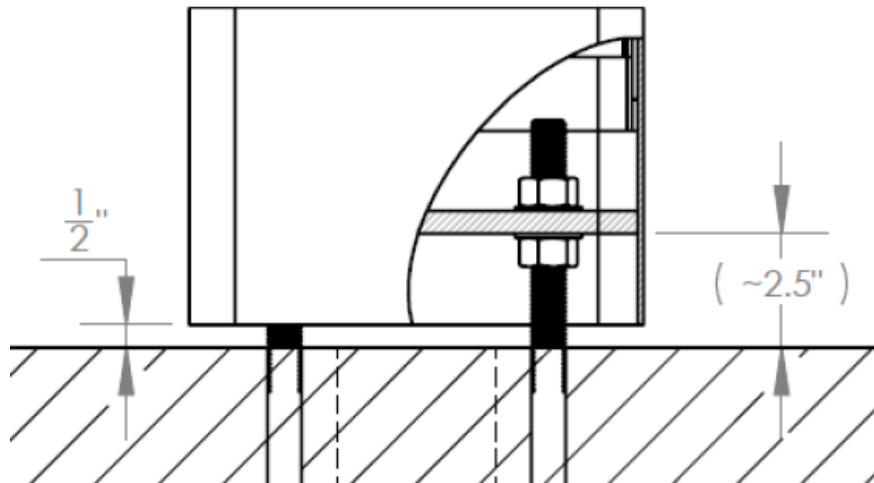

Figure 1: Tower Installation
1. After removing the tower from its shipping carton, install the LED Blue Light on top of the tower, feeding the power cord and control wires through the top of the tower. If installing an **ETP-MT/R** tower series, you will need to remove the cap plate atop the tower first. Fasten the LED Blue Light to the tower with three (3) 10-24 pan head tamperproof screws. Replace the cap plate at the top, if used. *It is not necessary to connect power lines at this point.*
2. Slide the LED Panel Light over the studs with the LEDs facing down. Tighten down using the two (2) 6-32 hex nuts (provided). Be careful not to over tighten to avoid cracking the LED Panel Light.
3. Install one 3/4"-10 hex nut and one washer (found in the **MT/R BOLT KIT** or **MT BOLT KIT**) on each anchor bolt 2.5-3.5" above grade to top of washer. This will allow for a 1/2" air gap between the foundation and the tower, which will allow airflow and prevent moisture problems. Verify that the nuts are level (0° pitch). – See **Figure 1** –